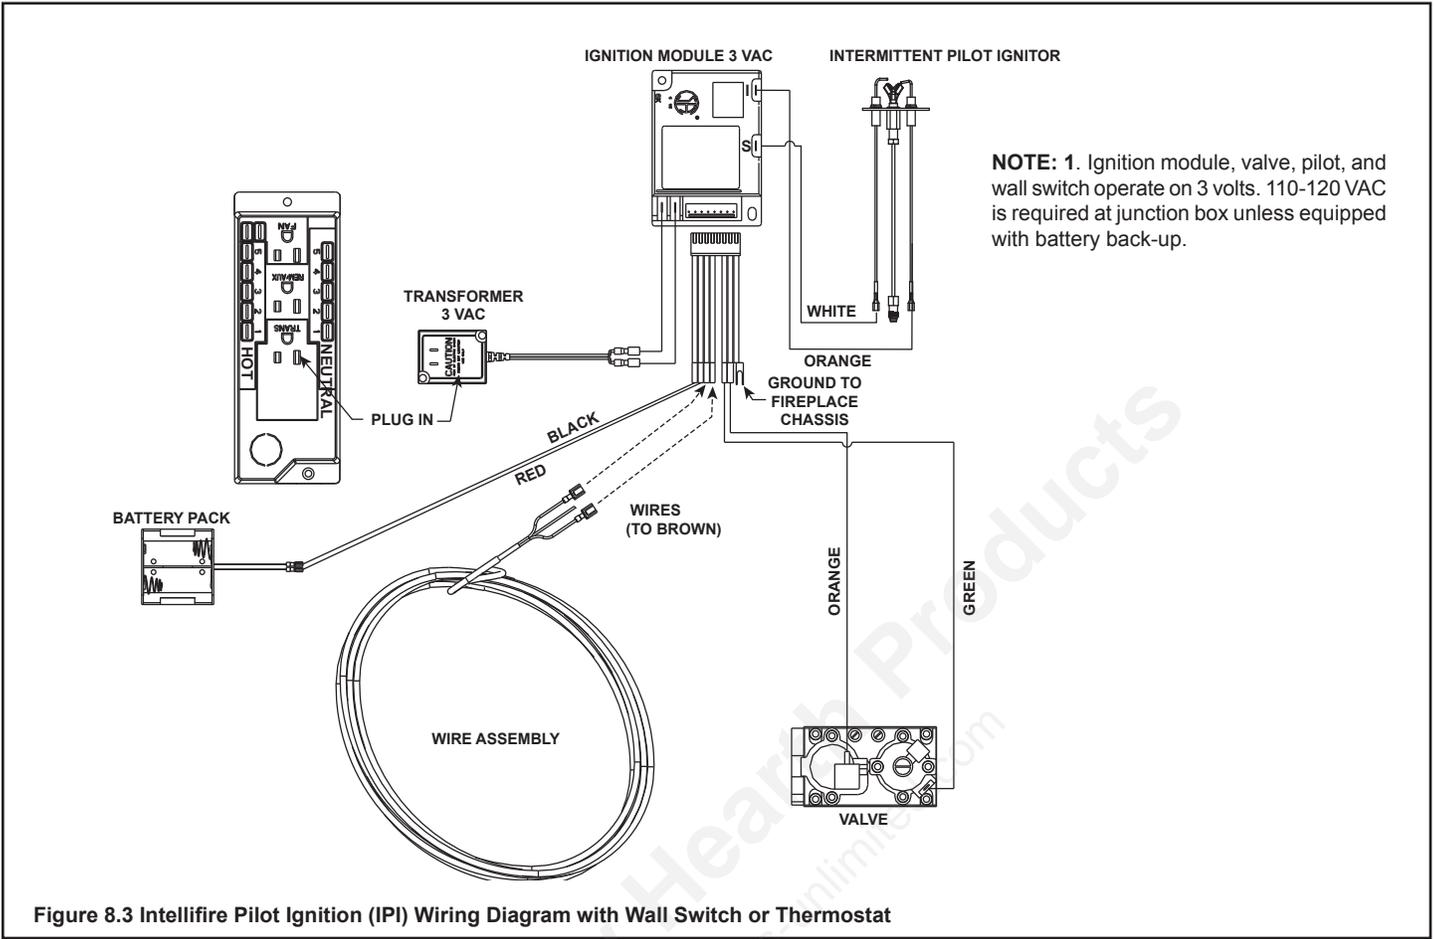

Figure 8.3 Intellifire Pilot Ignition (IPI) Wiring Diagram with Wall Switch or Thermostat
- Refer to Figures 8.3 and 8.4, Intellifire Pilot Ignition (IPI) Wiring Diagrams.